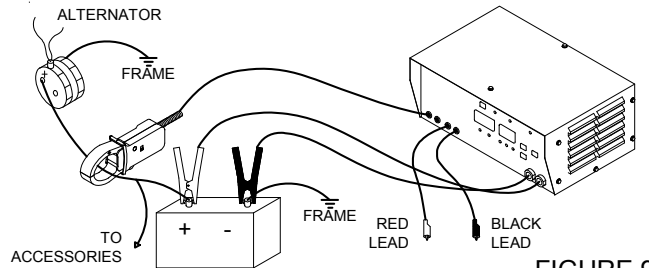

FIGURE 9
- 1) Connect tester to battery as shown in (see figure 9). Press the Test Selection [2] button until the Alternator LED is lit. Connect Amp Probe around positive output cable of alternator. If wires split off to feed power to accessories, the pickup must be placed over the wires between the point of the split and the alternator. Do not place the pickup closer than 6 inches to the alternator or the current readings may be affected by the magnetic field of the alternator.